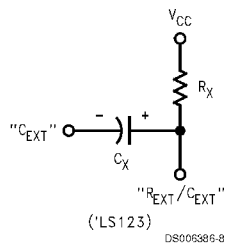

FIGURE 1.
2. When an electrolytic capacitor is used for  $C_X$  a switching diode is often required for standard TTL one-shots to prevent high inverse leakage current. This switching diode is not needed for the 'LS123 one-shot and should not be used. In general the use of the switching diode is not recommended with retriggerable operation. Furthermore, if a polarized timing capacitor is used on the 'LS123 the negative terminal of the capacitor should be connected to the "CEXT" pin of the device (Figure 1).